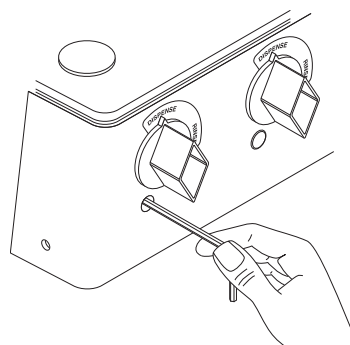

FIG 7 Adjusting Water Flow Using 1/4" allen wrench
6. Adjust the water flow rate Fig 7, (clockwise to increase flow rate; counterclockwise to decrease flow rate) to the corresponding product mix ratio as follows: